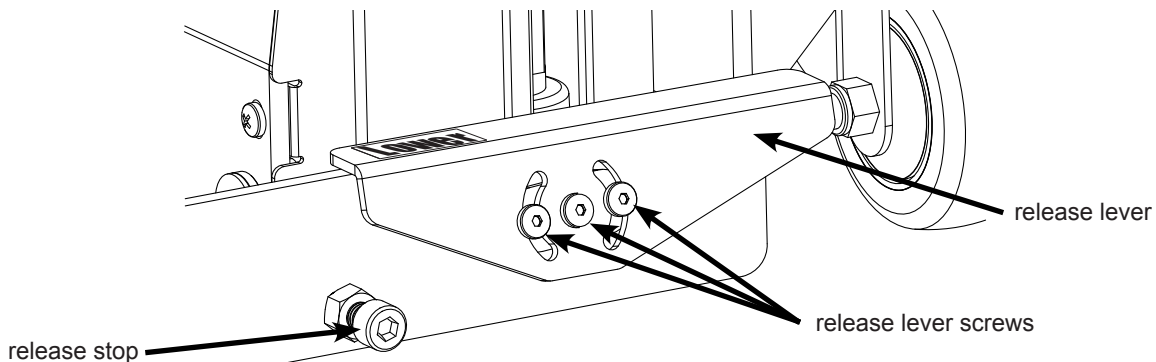

Fig. 3
1. Loosen the three screws in the release lever with a 3 mm hex key (see Fig. 3). Do not remove the screws. Once the three screws are loose, the release lever will rotate around the center screw.